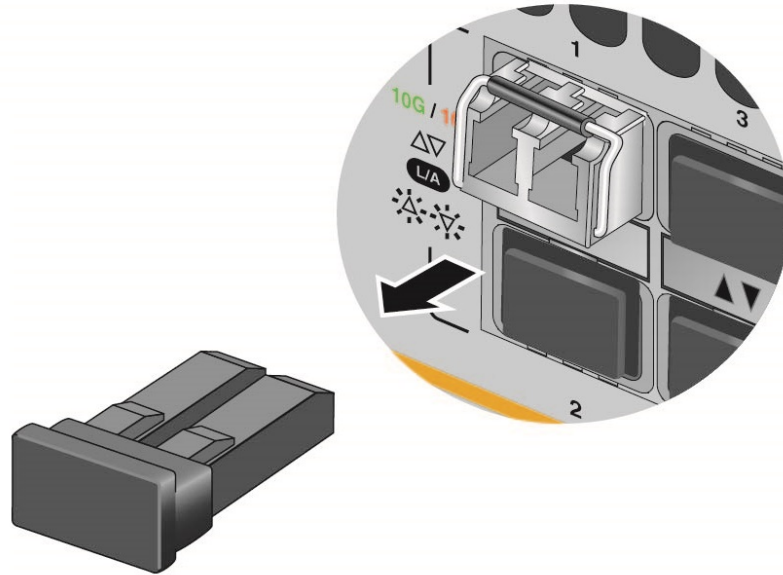

Figure 80. Removing the Dust Cover from an SFP or SFP+ Transceiver
6. Remove the dust cover from the transceiver, as shown in Figure 80 on page 170.